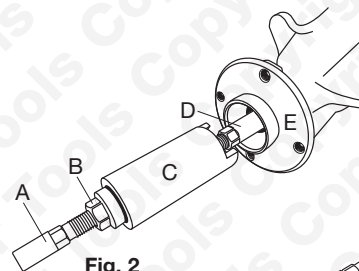

Fig. 2
- Locate assembled tool and screw the centre force screw **A** into the adaptor **D**. (Fig. 2)